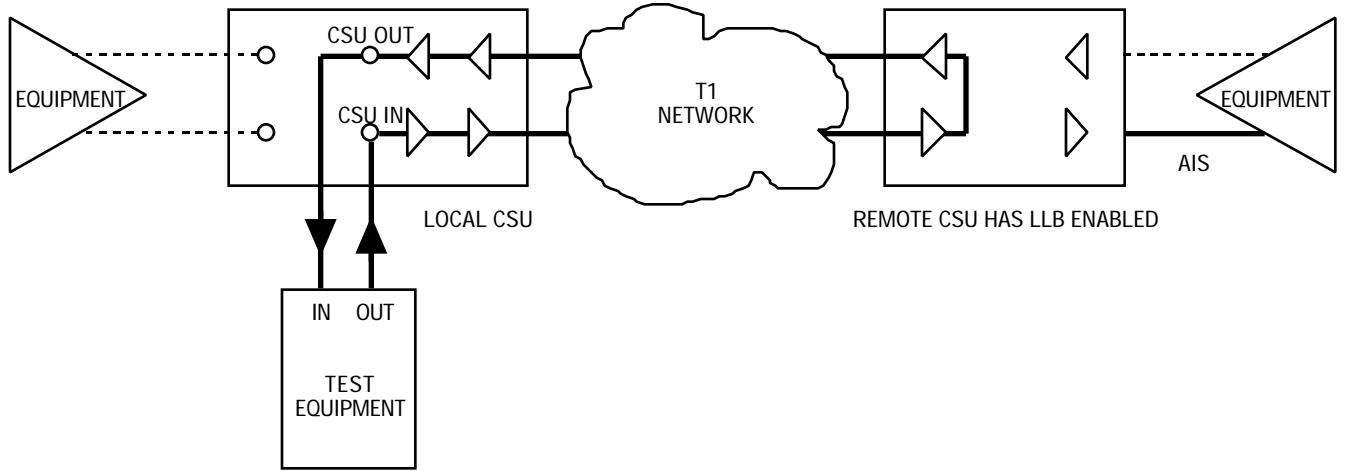
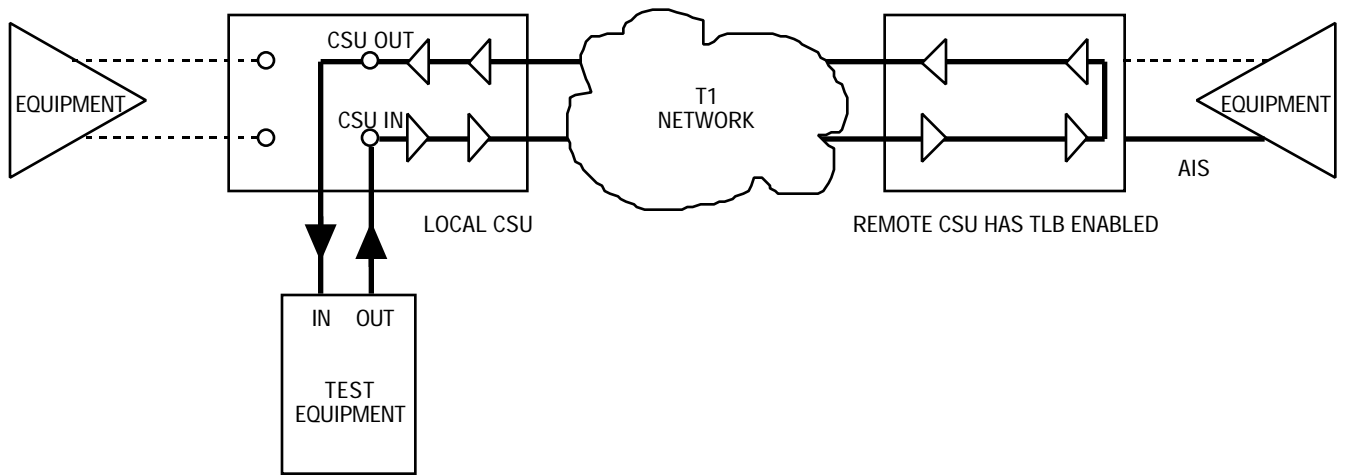

FIGURE 4-10. DS1 REMOTE TEST WITH LINE LOOPBACK
FIGURE 4-11. DS1 REMOTE TEST WITH TEST LOOPBACK
DS1 Remote Test (RT) activates the remote CSU's DS1 Line Loopback function (illustrated in Figure 4-10) or DS1 Test Loopback function (Figure 4-11), depending on which one is enabled in the remote CSU. This tests both CSUs and the T1 link by transmitting a locally-generated test message through the local CSU to the remote CSU and looping it back to the test equipment for verification. Bipolar violations are uncorrected during this test when the remote CSU has its LLB function enabled. Whether the local CSU transmits framed or unframed loopback codes depends on the selection of the loopback test code framing option.